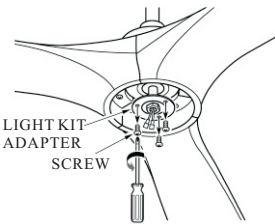

FIG.12
- 1. Remove the 3 screws on light kit adapter.(See fig.12)